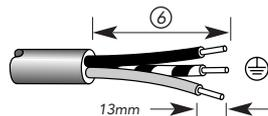

Fig. 2
6. Strip back outer cable sheath and trim wires, see figure 2.